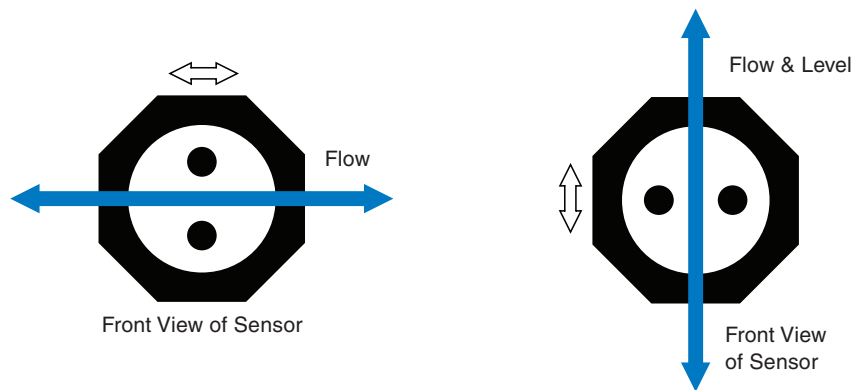

Figure 13 - Sensor Orientation for Horizontal Flow & Level
- To optimize the sensor’s performance ensure the sensor is positioned as outlined below. As shown in Figure 13 below, ensure the **arrows etched on the sensor flats** ($\langle \rightleftharpoons \rangle$) are oriented parallel to the process flow. Blue arrows indicate the acceptable directions of the flow.